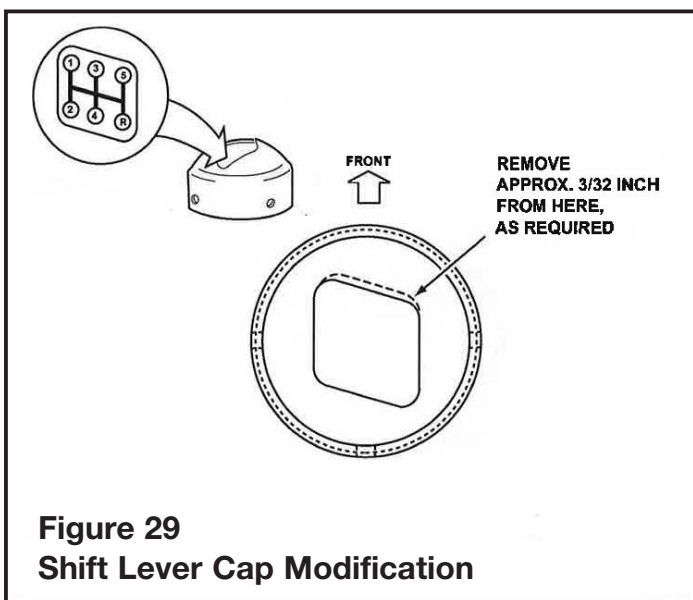

Figure 29
29. If necessary, file about $\frac{3}{32}$ in. out of the shift lever cap (230) in the 3rd and 5th gear position (See Figure 29) to ensure adequate clearance for the shift lever.